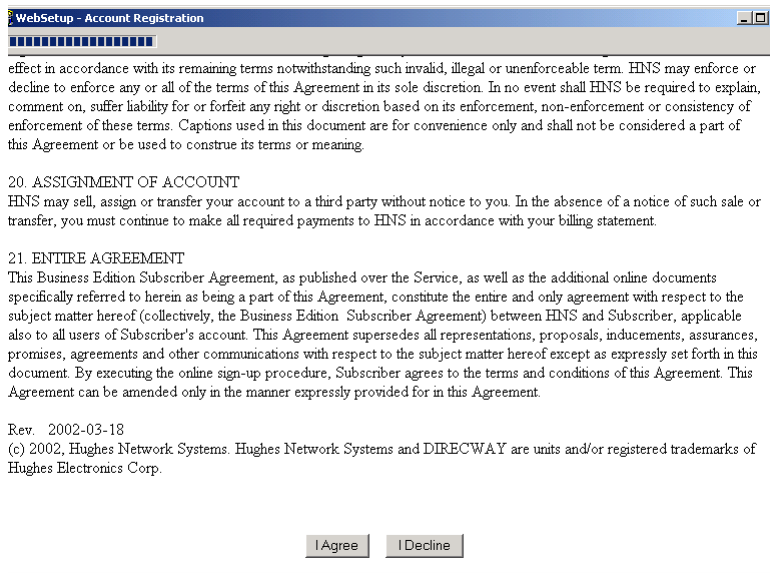

Figure 18: Agreement
7. Websetup then presents a series of forms to the user to complete registration. See Figure 18 through Figure 20. The appearance of the forms may vary, and the forms' content may change from time to time. For example, a SOHO customer Service Offerings screen shown in Figure 19 will be different from a consumer screen.